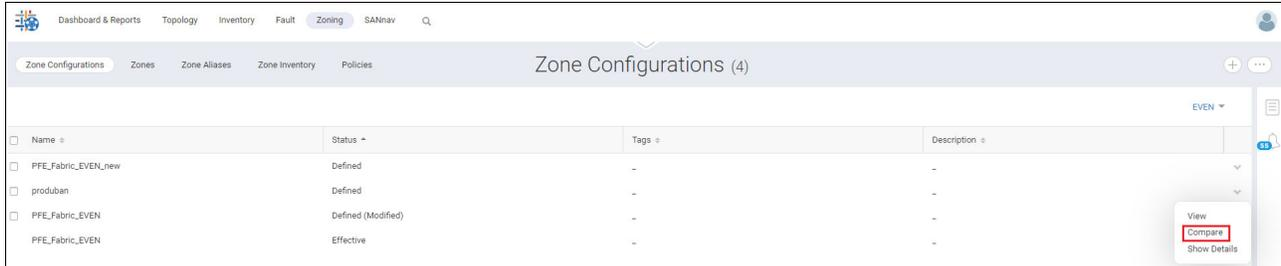

Figure 5-46 Comparing configurations
- You can compare an effective zone configuration with the defined (modified) or defined zone configuration directly from the Zone Configurations window. To compare configurations between the effective and defined (modified) or defined zone configurations, select **Compare** for the defined (modified) or defined zone configuration, as shown in Figure 5-46.